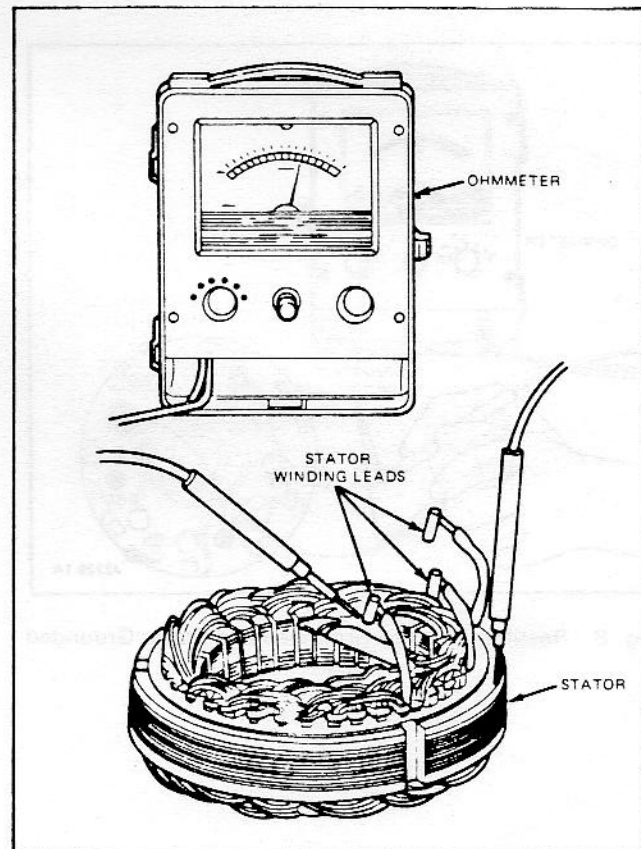

Fig. 11 - Stator Coil Test
1. connect the ohmmeter probes to one of the stator leads and to the stator laminated core (Fig. 11). Be sure that the probe makes a good electrical connection with the stator core. The meter should show an infinite reading (no meter movement).
1. Connect one ohmmeter probe to a stator phase lead (Fig. 11) and touch the other probe to another stator lead. Check the meter reading.